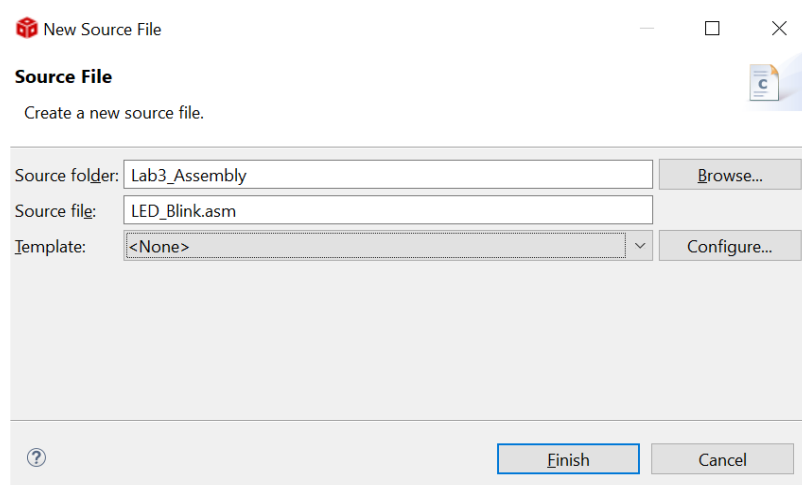

Figure 1: New assembly source file
4. **New Source File** dialog box appears. Enter the file name with the extension as shown in Figure 1 below. Then click **Finish**. A blank file without any text is created.